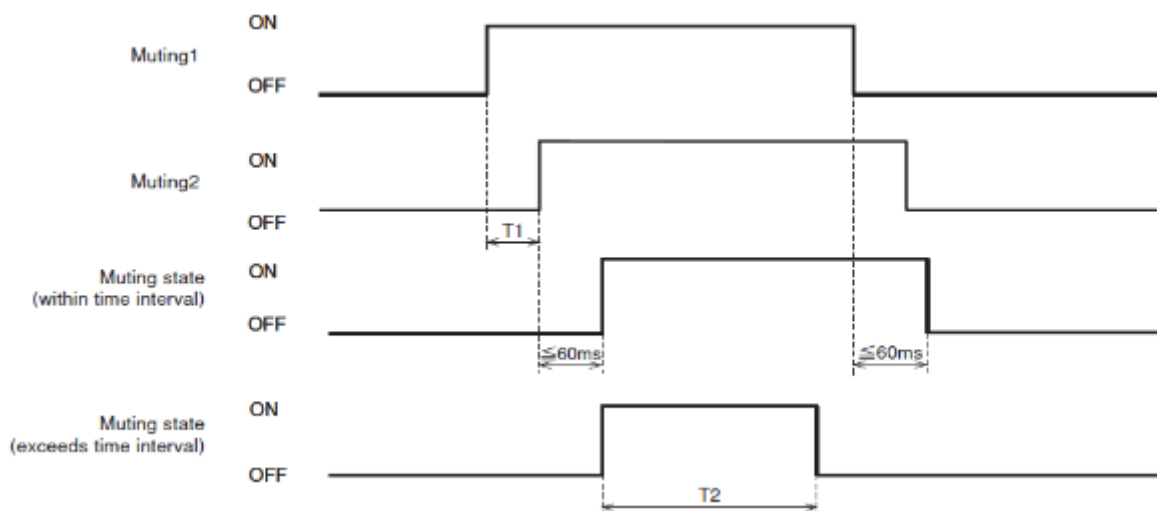

Figure 4-11 Muting sequence
- b) The two independent hard wired muting input signals are switched to ON state in the predefined sequence within the pre-set time interval. However, the switching interval between two input signals should not be 0 (Refer to figure 4-11).
- b) When the predefined (preset) maximum muting time T2 exceeds (1 minute and above) (Figure 4-11).
Figure 4-11 shows the muting sequence.